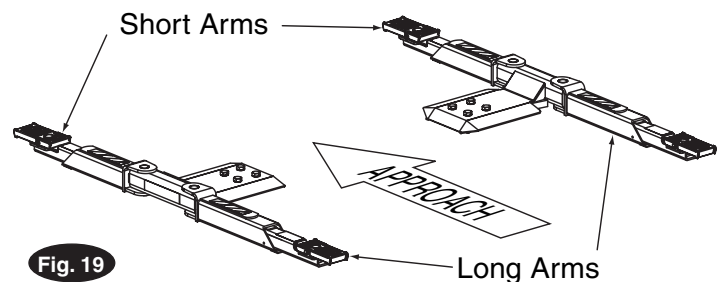
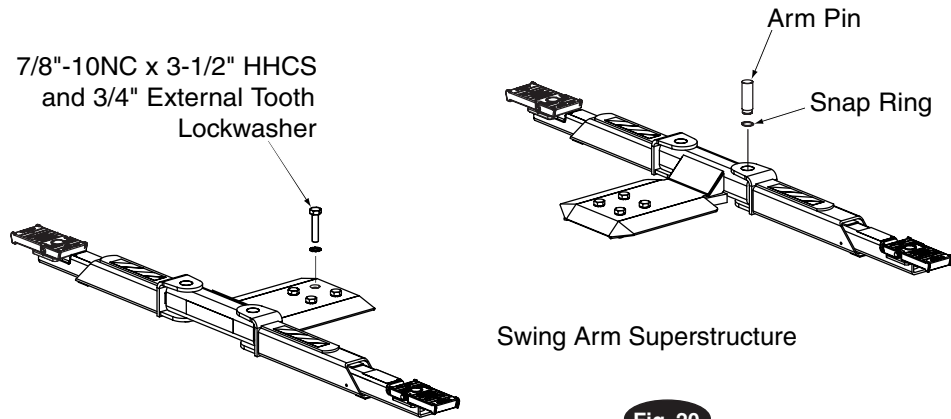

Fig. 19
Fig. 20
- B. Swing Arm Superstructures: **Note arm locations, Fig. 19.**
1. Install yokes to plungers with 7/8"-10NC x 3-1/2" HHCS and lock washer. Torque to 150 ft-lbs, Fig. 20.
3. Install (4) arm assemblies using the arm pins and snap rings.
**Note arm locations, Fig. 19.**